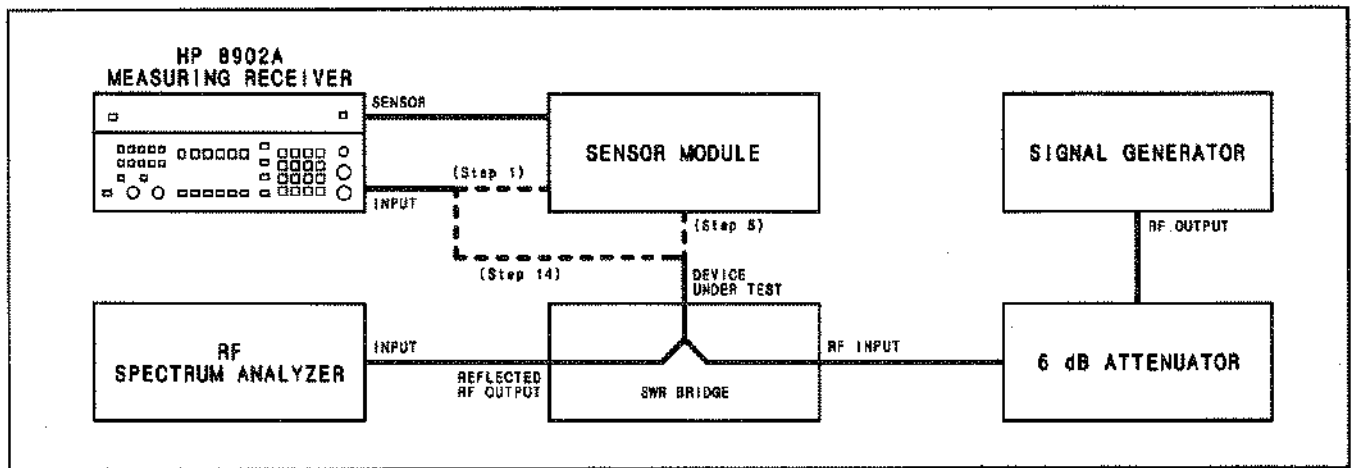

Figure 4-7. SWR Performance Test Setup
1. Connect the equipment as shown in Figure 4-7. Connect the 6 dB attenuator directly to the RF input of the SWR bridge. Do not connect anything to the device-under-test input of the SWR bridge at this time.
5. On the Measuring Receiver, press the blue key then press *INSTR PRESET* (the *AUTOMATIC OPERATION* key) to preset the instrument. Press *RF POWER*. Connect the sensor module to the SWR bridge. (See Figure 4-7.)
14. Disconnect the sensor module from the SWR bridge and the Measuring Receiver's input. Connect the SWR bridge's RF input directly to the Measuring Receiver's INPUT connector. (See Figure 4-7.)